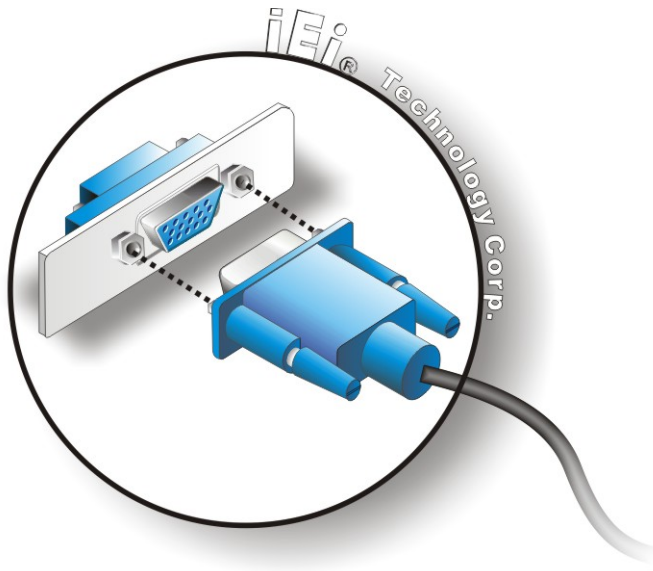

Figure 4-14: VGA Connector
- Step 3:** **Insert the VGA connector** Once the connectors are properly aligned with the insert the male connector from the VGA screen into the female connector on the WSB-PV-D4251/D5251. See Figure 4-14.